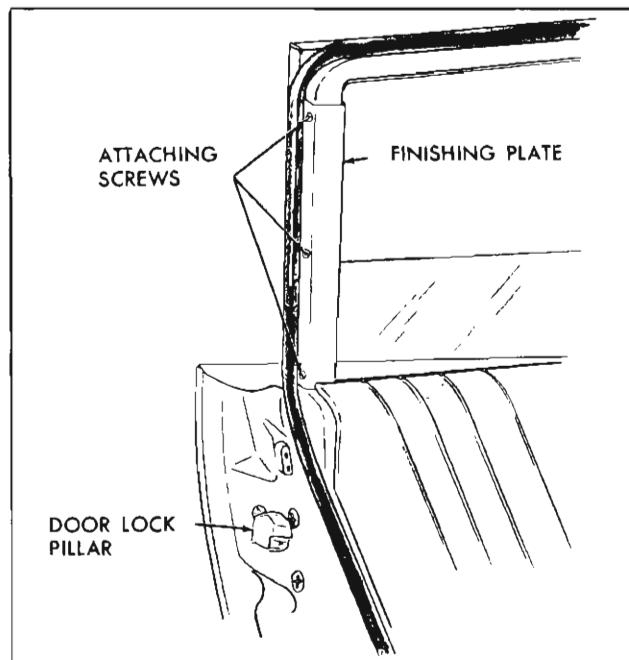

Fig. 60—Rear Door Belt Support Finishing Plate—35 and 45 Styles
3. Remove screws securing door belt trim support rear finishing plate (three) and remove plate (fig. 60).